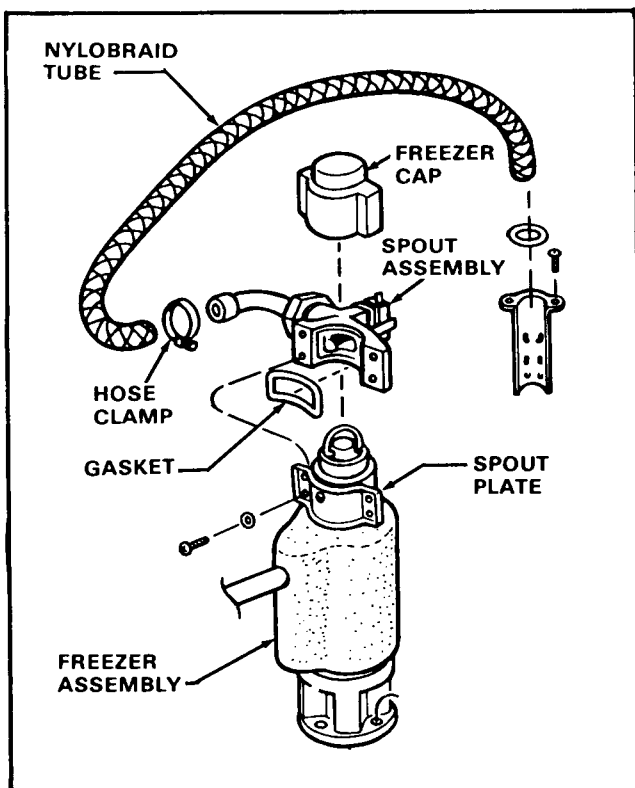

Figure 4-3. Removal of the Spout Assembly.
- To Remove the Spout Assembly, see Figure 4-3: